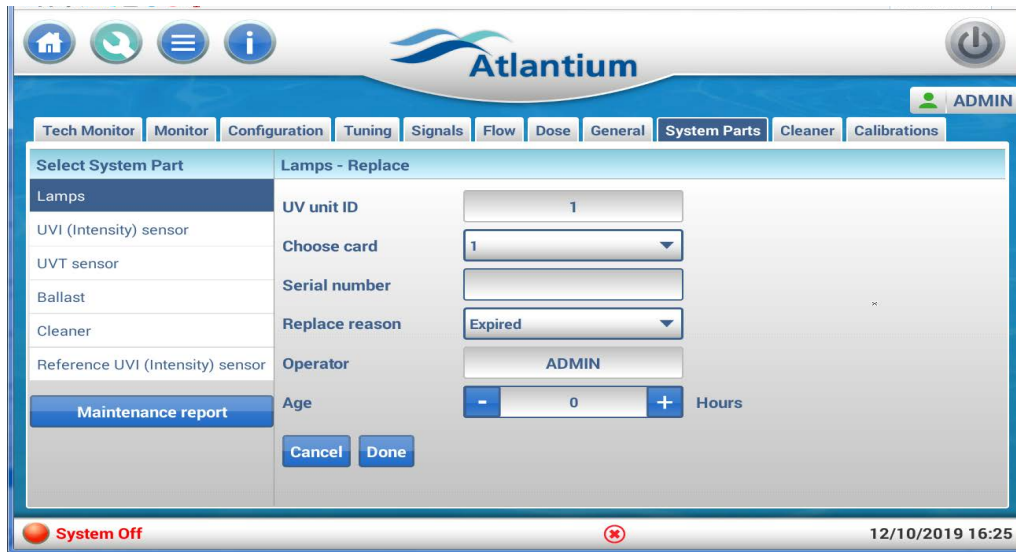

Figure 10-7: System Parts tab with Lamps selected
- Step 1.** Log in as an ADMIN user and tap on **System Parts** tab to open it (see **Figure 10-7**)